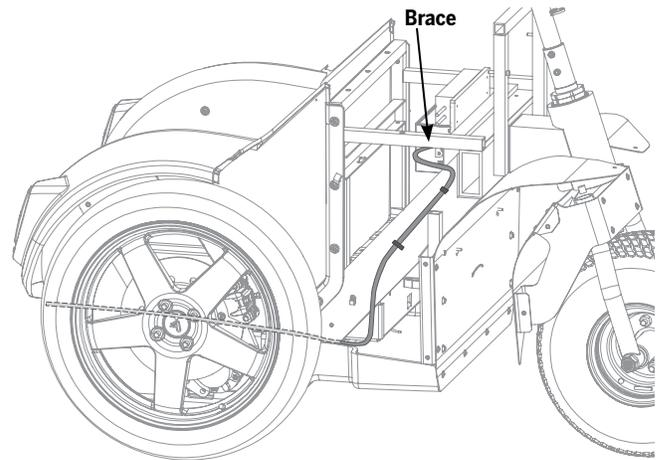

Figure 176: Rear Strobe Light Harness Routing
2. Route the harness down the right side of the skid plate. See **Figure 176**.